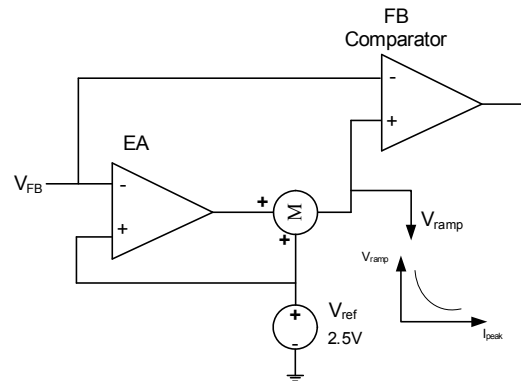

Figure 5: EA and Ramp Compensation
To improve load regulation, the MP150 implements an error amplifier (EA) compensation function (Figure 5). The MP150 samples the feedback voltage 6 μs after the MOSFET turns off. EA compensation regulates the 2.5V reference voltage with the load, thus improving the power module regulation.
An internal ramp compensation circuit precisely maintains the output voltage. An additional exponential voltage sinking source pulls down the feedback comparator's reference voltage as shown in Figure 5. The ramp compensation is relative to the load conditions: Under full-load conditions, the compensation is ~1mV/ μs ; with a decreasing load, the compensation increases exponentially.